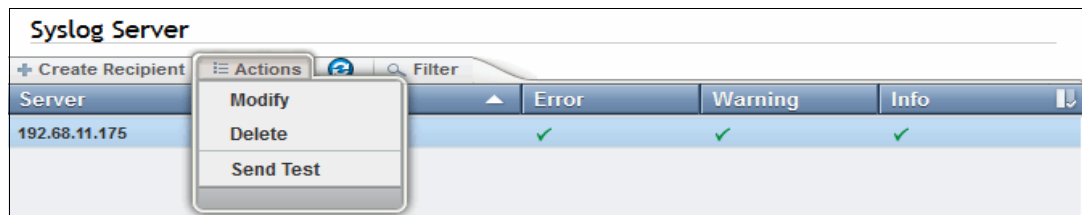

Figure 4-30 Syslog Server Notifications Actions menu
3. After the syslog server is set, you can use the **Actions** menu, as shown in Figure 4-30. You can modify, delete, or send a test to the IP address of a syslog server.